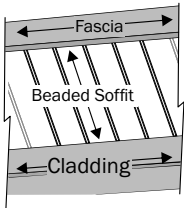

Fig.1
- Should be run perpendicular to the structure whenever possible to result in the shortest pieces of material (pg. 23, figure1).